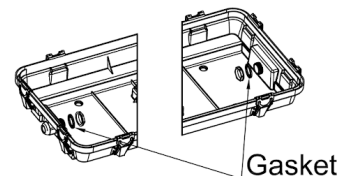

Fig. 4
3. Install the cable gland to the end of the housing (Fig. 4). Insert the flexible power cable (not included) through the cable gland allowing for sufficient length of stripped cable inside the housing and tighten the gland. Insert supplied plug into unused conduit hole.